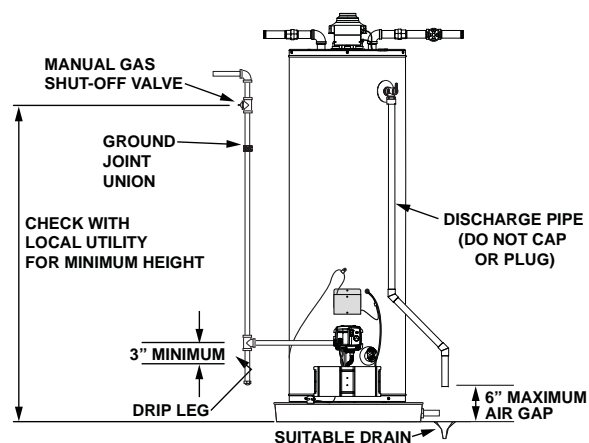

FIGURE 5.
**NOTE:** Use pipe joint compound or teflon tape marked as being resistant to the action of petroleum [Propane (L.P.)] gases (See Figure 5.)